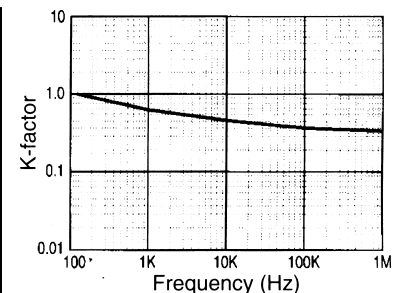

Fig. 4 Correction coefficient (K)
Since the ESR(D) value varies with the ripple frequency, the following correction must be made in accordance with the operating frequency. (See Table 2 and Fig. 4.)
K: Coefficient for the operating frequency (Table 2 and Fig. 4).